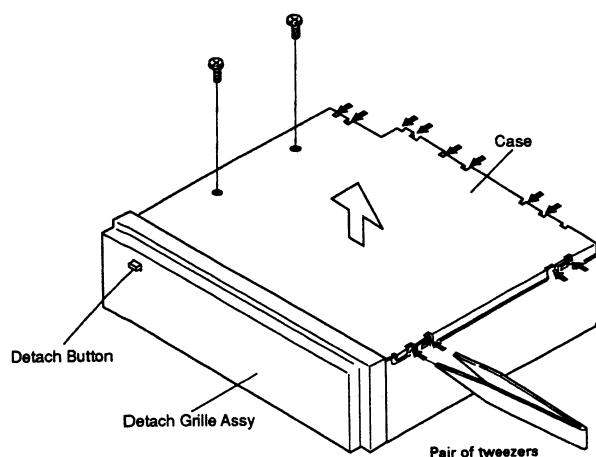

Fig.13
- 1.Press the detach button.(Fig.13)